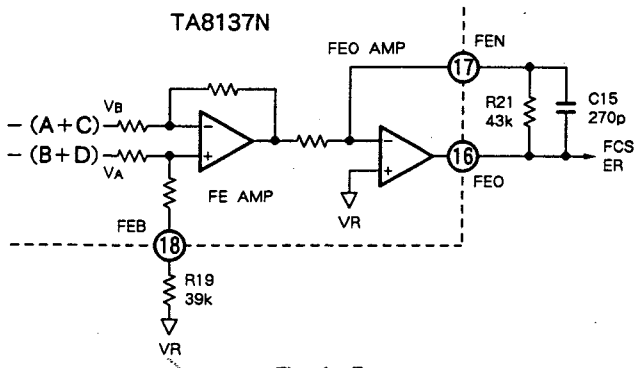

Fig. 1-5
The difference between the output of the RF I-V amplifier (1) V_A and that of the RF I-V amplifier (2) V_B is obtained, and the OEIC output signal $(B + D) - (A + C)$ is supplied at the center of the reference voltage. (See Fig. 1-5.)